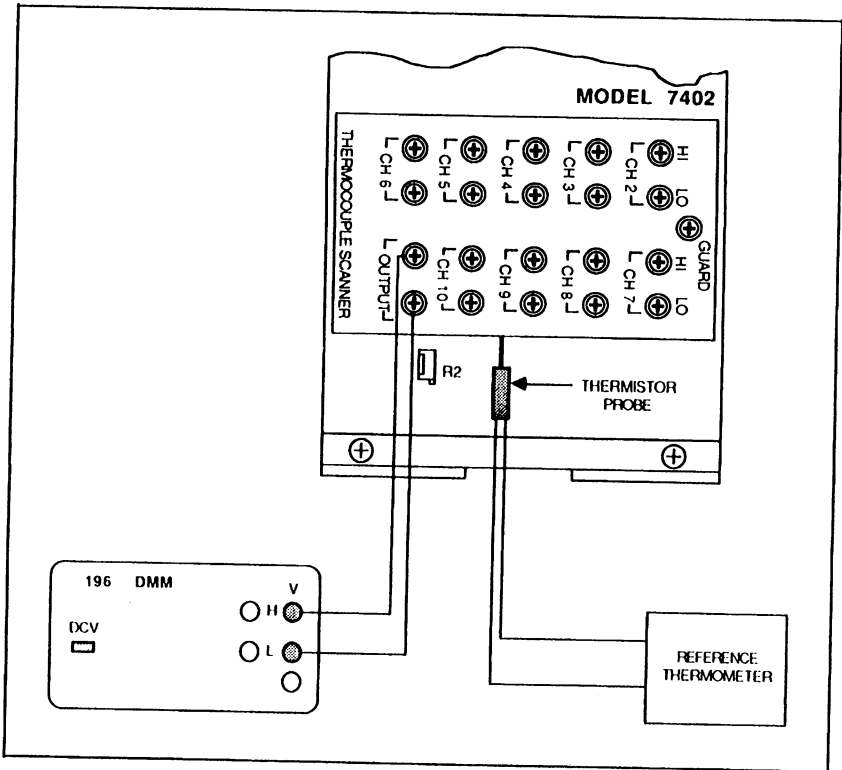

Figure 3-3. Performance Verification
2. Set up the test equipment as shown in Figure 3-3 and let it warm up one hour. Connect the Model 7402 to the Model 740 or 705/706 through the Model 7061 Universal Adapter Card, which is used as an extender. Protect the Model 7402 from air drafts.